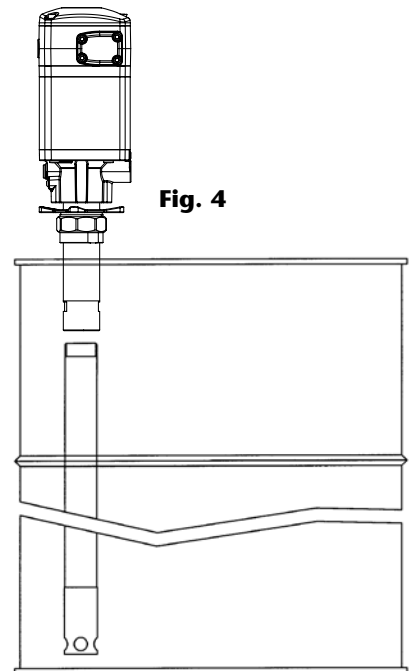

Fig. 4
- Adjustable drum or tank mounting, using bung adapter 360002. Screw the proper suction tube (see fig. 4) to the foot valve of the pump. Screw the nut of the bung adapter to the 2" opening of the cover. Insert the suction tube through the nut and secure it with the star nut at the desired height.